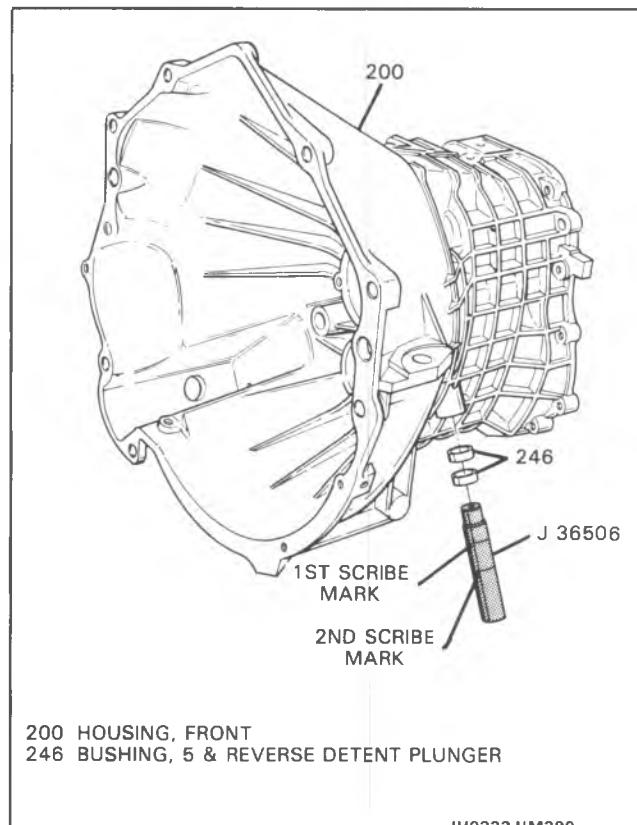

Figure 59 5th-Reverse Detent Bushings Install
6. NEW Countershaft bearing plug (250) using J 36799 and J 8092.
7. Two 5th-reverse detent bushings (246), using J 36506 (Figure 59).